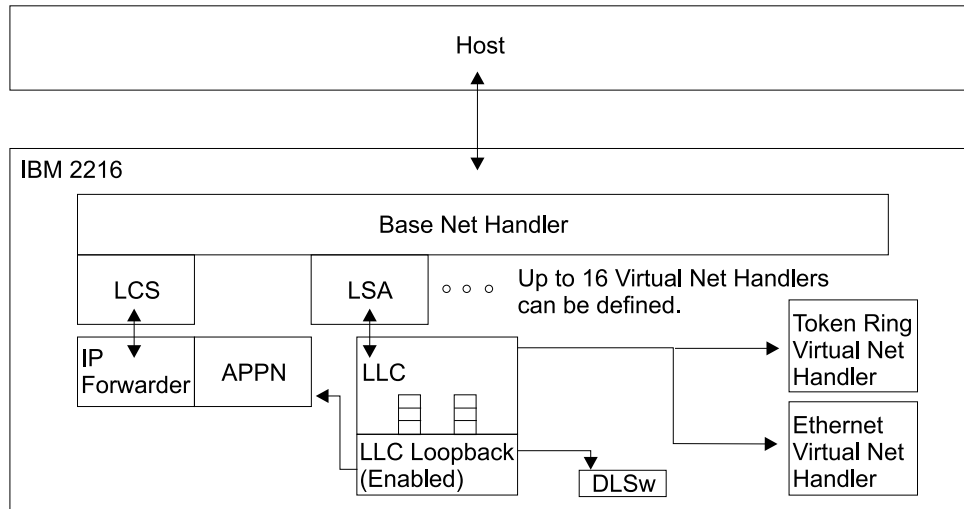
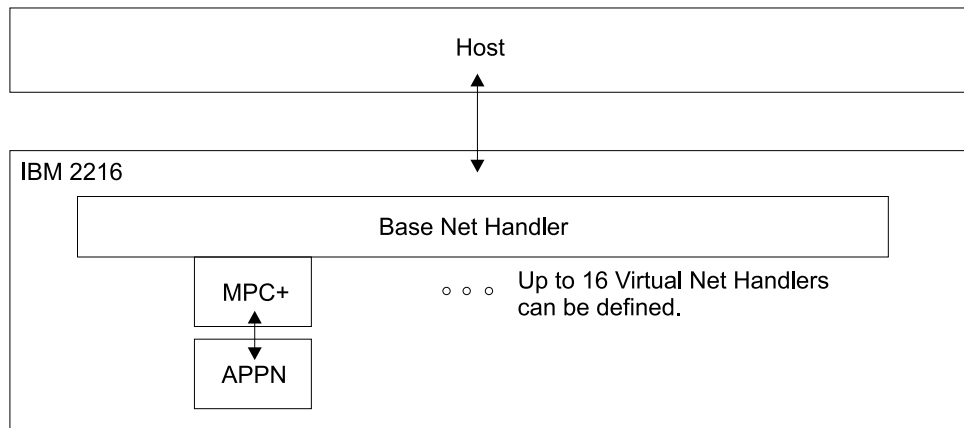

Figure 4-2. 2216 ESCON Virtual Net Handlers for LCS and LSA.
Figure 4-3. 2216 ESCON Virtual Net Handlers for MPC+.
- 4** The virtual net handlers provide connections for transmitting and receiving packets of information for host applications as shown in Figure 4-2 on page 4-3 and Figure 4-3 on page 4-3.
Figure 4-2 on page 4-3 shows the basic flow for an ESCON Channel Adapter with LCS and LSA configured, and Figure 4-3 on page 4-3 shows the basic flow for an ESCON Channel Adapter for which MPC+ is configured.